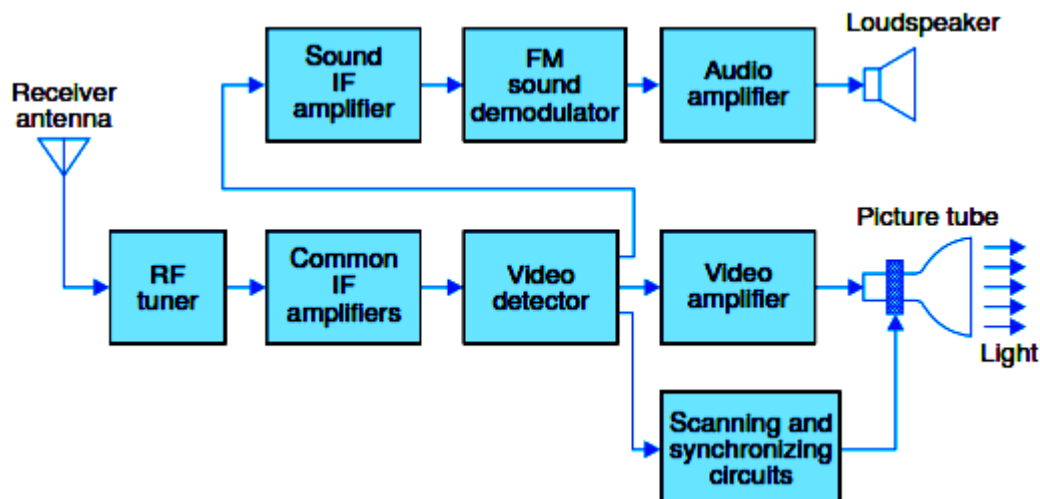

Fig. 12.10 Block diagram of a black and white TV receiver.
1. A simplified block diagram of a black and white TV receiver is shown in Fig. 12.10.
2. The receiving antenna intercepts broadcasted RF signals and the tuner selects desired channel's frequency band and converts it to the common IF band of frequencies. The receiver employs two or three stages of intermediate frequency (IF) amplifiers.